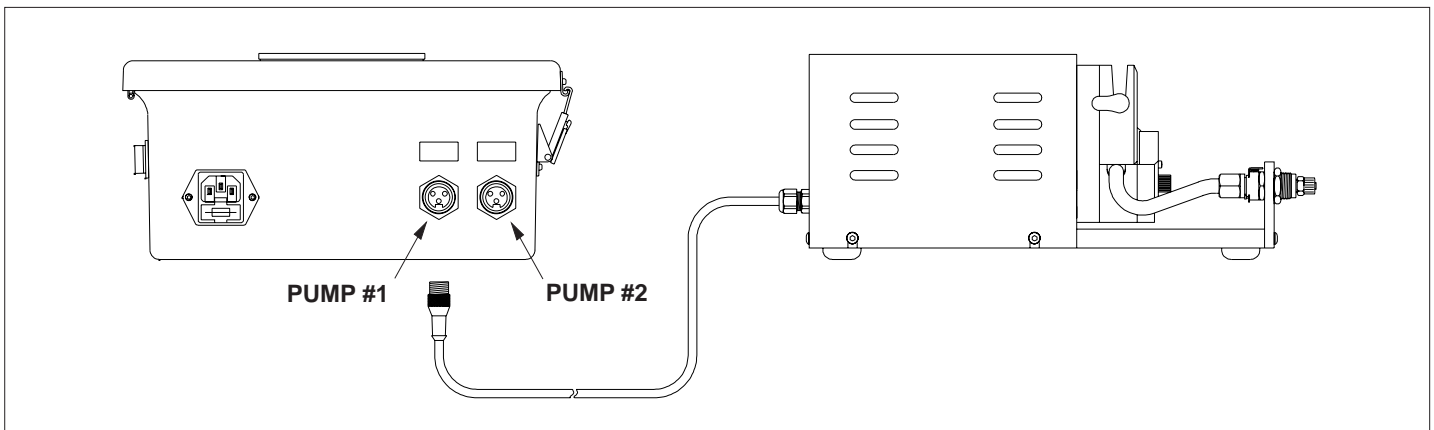

FIGURE 8
- 5 - Plug the Pump Module cable(s) into the plug receptacles located on the bottom of the control box marked *PUMP MODULE #1* and *PUMP MODULE #2* as shown in (Figure 8).